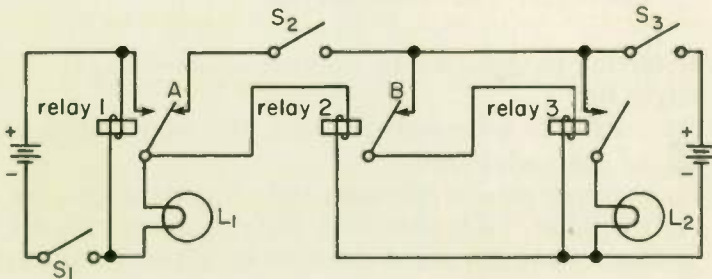

Fig. 42
13. In Fig. 42, which lights are on when switches *S*₁ and *S*₂ are both open and *S*₃ is closed? Relay contacts are shown in deenergized positions.
- (1) None
- (2) *L*₁ only
- (3) *L*₂ only
- (4) Both *L*₁ and *L*₂
14. In Fig. 42, which lights are on when switch *S*₁ and *S*₃ are closed, and *S*₂ is open? (Select answer from choices for Question 13.)
15. Which lights are on when switch *S*₁, Fig. 42, is open and switches *S*₂ and *S*₃ are closed? (Select answer from choices for Question 13.)
16. Which lights are on if all switches in Fig. 42 are closed? (Select answer from choices for Question 13.)
17. In Fig. 42, which relay can be described as SPST (NO)?